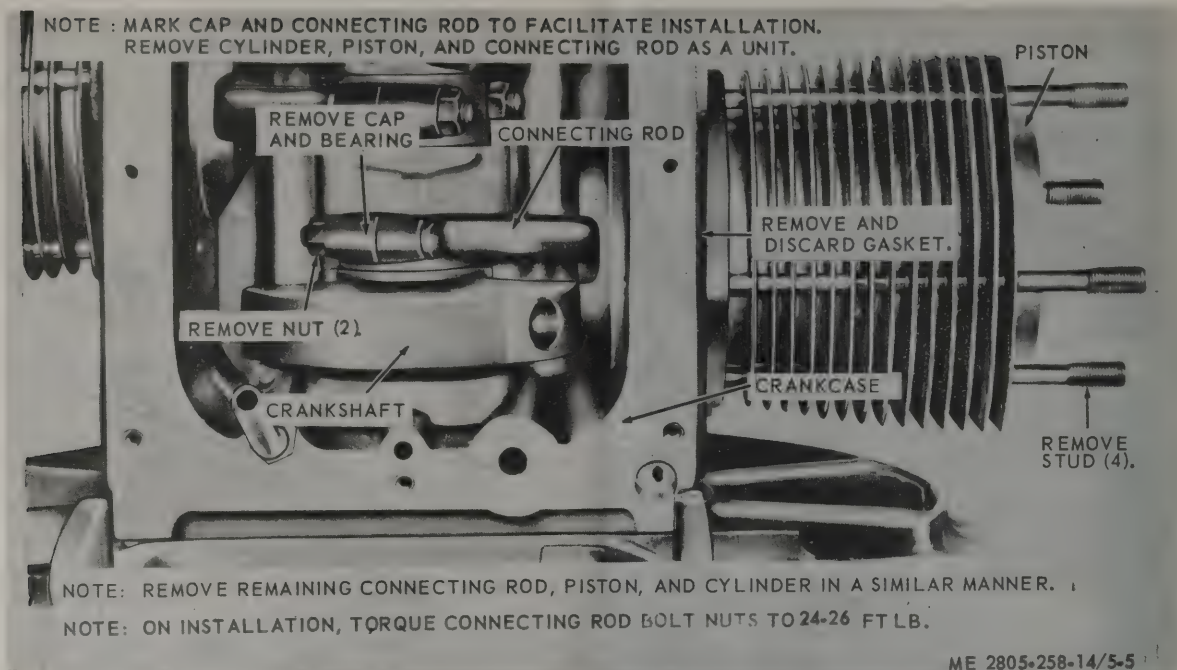

Figure 5-5. Cylinders, pistons, and connecting rods, removal and installation.
- (1) Remove cylinder heads (para 5-2).
- (2) Remove oil pan (para 5-4).
(3) Refer to figure 5-5 and remove cylinders, pistons, and connecting rods.
e. Installation. Refer to figure 5-5 and install cylinders, pistons, and connecting rods.